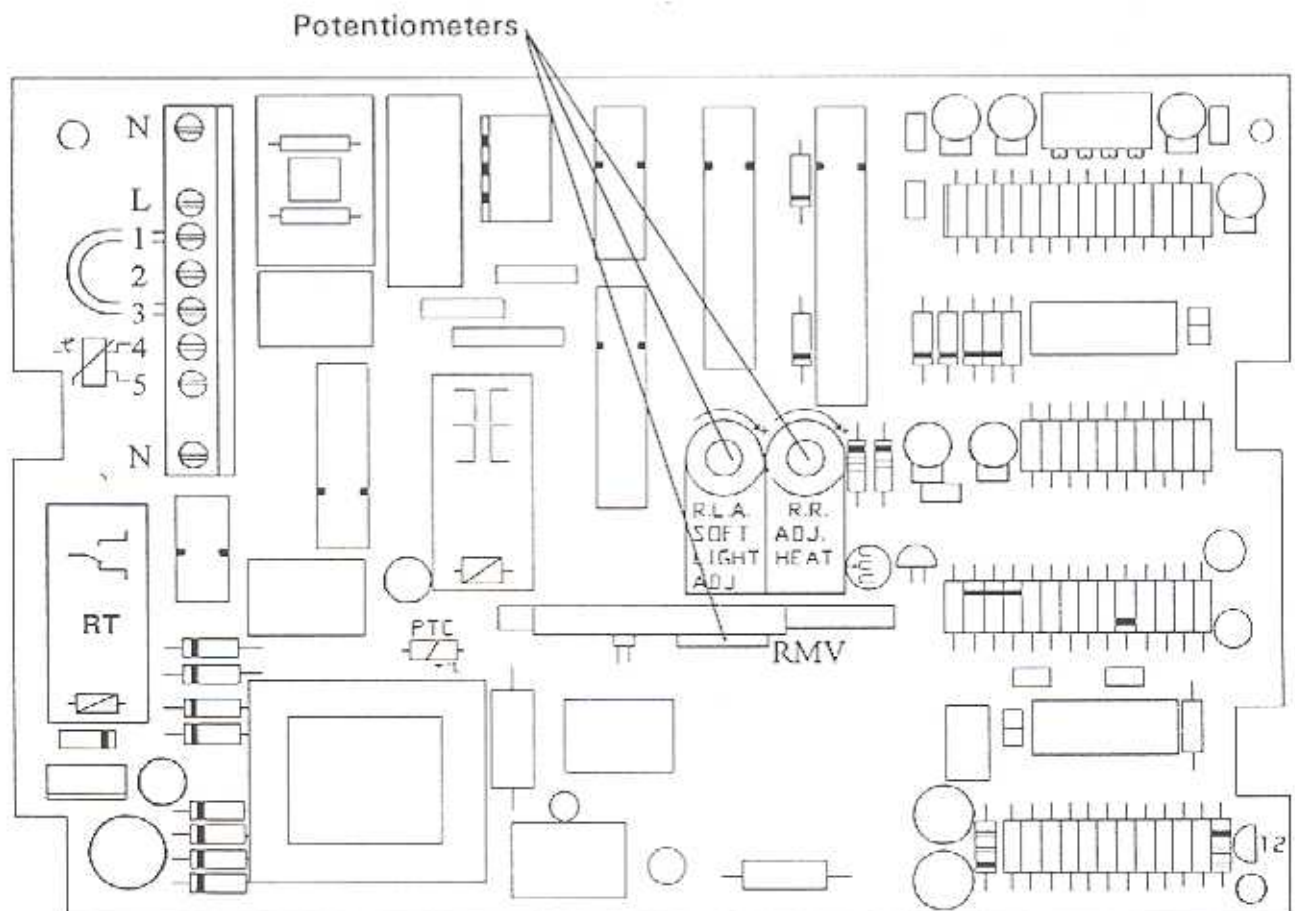

Fig.20
- 6.6.6 To establish low flame turn the mode selector switch (21) to  position. Turn on any external controls e.g. roomstat, clock etc. Adjust the central heating control knob to maximum then adjust the potentiometer on the circuit board marked ADJ HEAT (Fig.20) to minimum. The pressure reading should be 0.8 mbar / 0.31in wg (plus or minus 0.08 mbar/0.03in wg). If it is different adjustment should be made in accordance with the instructions in clause 8.24. Adjust back to maximum or see section 6.6.14.